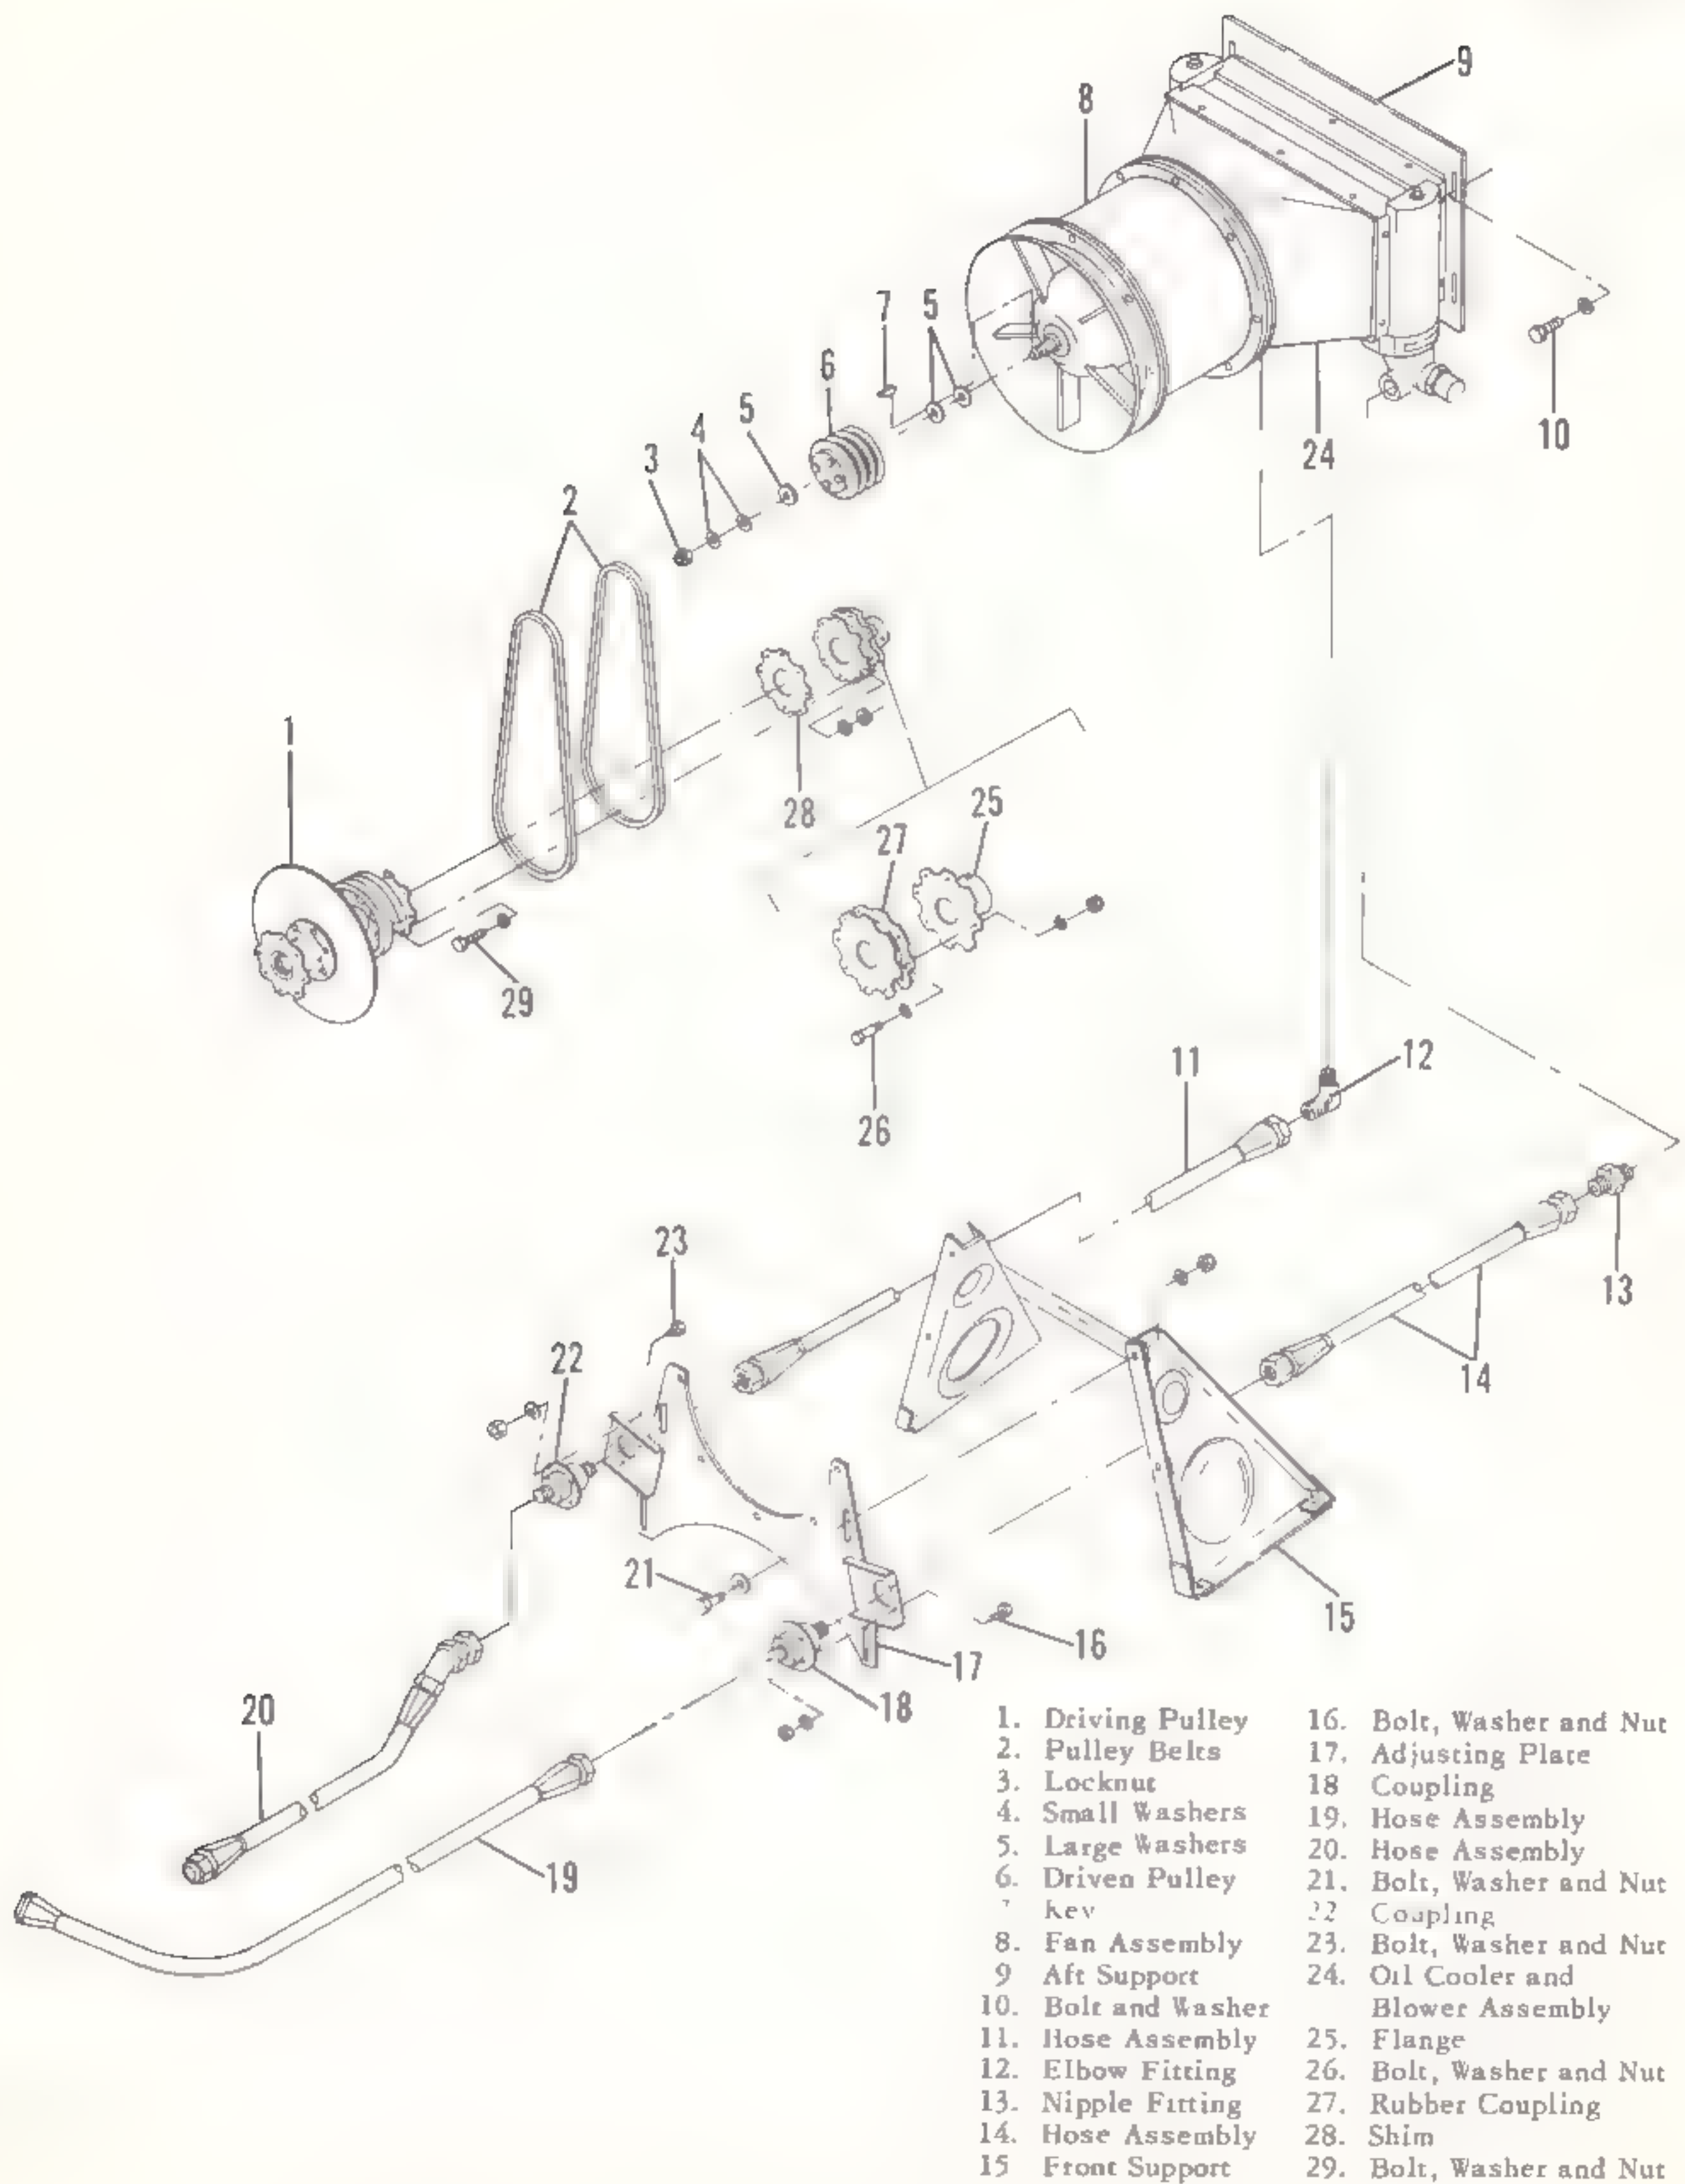

Figure 7-16. Oil cooler and blower assembly (helicopter serial No. 54-892 and subsequent)
a. Hinge down service platform and remove skin assemblies over oil cooler and blower assembly (24, figure 7-16) by unlocking Camloc fasteners.
b. Support fan assembly (8) with transmission support, part No. S1670-10624, FSN 1730-633-0933.
c. Loosen bolts, washers, and nuts (21) which secure adjusting plate (17) to front support (15), lower forward end of fan assembly (8), and pull pulley belts (2) off driven pulley (6).
d. Remove bolts, washers, and nuts (29) that secure rubber coupling (27) and shims (28) to driving pulley hub flange at aft end of second section of tail rotor drive shaft. Remove shims.
7-53. *Adjustment.* To correct forward and aft misalignment of driven pulley (6, figure 7-16) proceed as follows:
d. Remove locknut (3), small washer (4), large washer (5), driven pulley (6), and key (7).
e. Position two of four larger washers (5) on fan shaft. Install key (7), driven pulley (6), and other two large washers (5). Secure driven pulley with a small washer (4) and locknut (3). Tighten locknut to a torque of 165 to 195 inch-pounds.
f. Place pulley belts (2) in proper position on driving pulley (1) and driven pulley (6).
g. Position transmission support, part No. S1670-10624, FSN 1730-633-0933, under fan assembly (8).
h. Loosen bolts, washers, and nuts (21) which secure adjusting plate (17) to front support (15) and bolts and washers (10) attaching aft support (9) to bulkhead.
i. Using support in step g, raise oil cooler and blower assembly (24) until pulley belts (2) deflect 1/2 to 3/4 inch midway between driving and driven pulleys (1 and 6) with a load of $10 \pm 1/2$ pound. Tighten adjustment bolts and washers (10) and bolts, washers, and nuts (21) to a torque of 100 to 140 inch-pounds.
7-54. *Hose Assemblies and Fittings.* Four hose assemblies (11, 14, 19, and 20, figure 7-16) carry oil from the oil pump to the oil cooler and back to the oil inlet fitting on the main transmission. The hose assemblies are attached together by couplings (18 and 22) at the adjusting plate (17).
a. *Removal.* (1) Drain oil from main transmission and oil cooler and blower assembly as necessary.
(2) Disconnect quick disconnect fittings of hose assemblies (19 and 20, figure 7-16) from couplings (18 and 22) at adjusting plate (17).
(3) Remove hose clamp securing hose assembly (20) and disconnect forward end of hose assembly from oil pump outlet fitting. Remove hose assembly and remove quick disconnect fitting from hose assembly. Install dust plugs in hose assembly and cap oil pump outlet fitting to prevent entry of foreign material.
(4) Disconnect forward end of hose assembly (19) from oil inlet fitting. Remove hose assembly and remove quick disconnect fitting from hose assembly. Install dust plugs in hose assembly and cap oil inlet fitting to prevent entry of foreign material.
(5) Disconnect hose assembly (11) from elbow fitting (12) and coupling (22). Remove hose assembly and install dust plugs to prevent entry of foreign material.
(6) Remove bolts, washers, and nuts (23) securing coupling (22). Remove coupling.
(7) Disconnect hose assembly (14) from nipple fitting (13) and coupling (18). Remove hose assembly.
(8) Remove bolts, washers, and nuts (16) securing coupling (18). Remove coupling.
(9) Remove elbow fitting (12) and nipple fitting (13) from oil cooler radiator. Install dust plugs in fitting port openings to prevent entry of foreign material.
d. Installation. (1) Remove dust plugs from oil cooler radiator, and install elbow fitting (12, figure 7-16) and nipple fitting (13) in position.
(2) Install and secure couplings (18 and 22) to adjusting plate (17) with bolts, washers, and nuts (16 and 23).
(3) Remove dust plugs from hose assembly (11), and install and connect hose assembly to elbow fit-